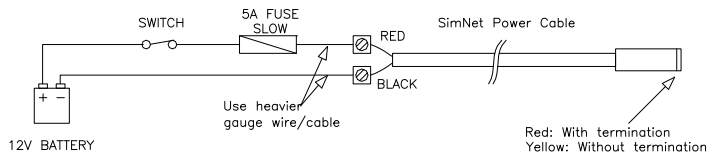

Figure 2-10 SimNet Power connection
- Connect 12V SimNet supply. Refer to Figure 2-10 for correct polarity